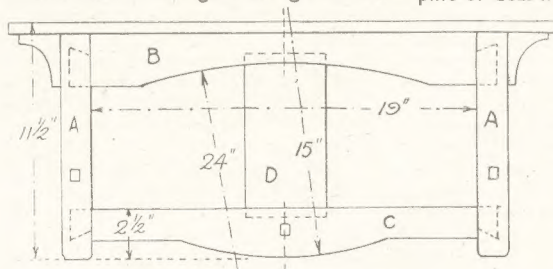

Fig. 1—General outline of main parts with dimensions
The front view of the frame, Fig. 1, gives the positions of the rails and how they are to be fixed together. The side rails (A) are 11ins. long by 1½ins. wide by ½in. thick. Top rail (B) is 21ins. long by 2½ins. wide at the ends, and 1½ins. deep in the middle, by ½in. thick. The bottom rail is 21ins. long by 1½ins. wide at the ends and 2½ins. wide in the middle, by ½in. thick. The middle panel is 8ins. long by 4ins. wide by ¾in. thick.